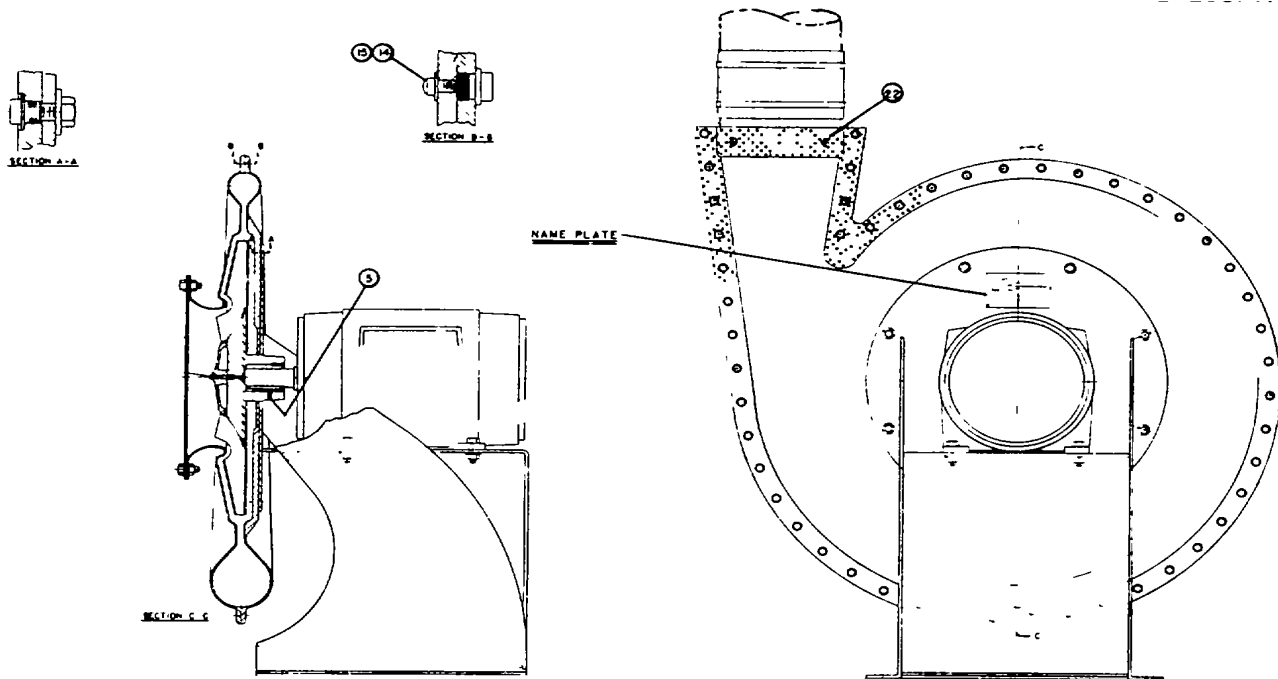

Fig. 5 - Typical direct drive turbo blower.
*In order to ensure an effective air seal, it is Important that a suitable caulking (we recommend "STRIP CAULK" by 3M) be placed between the outlet adapter and the casing halves for a short distance in each direction. Suggested approximate area of caulking is shown shaded in Figure 5.*